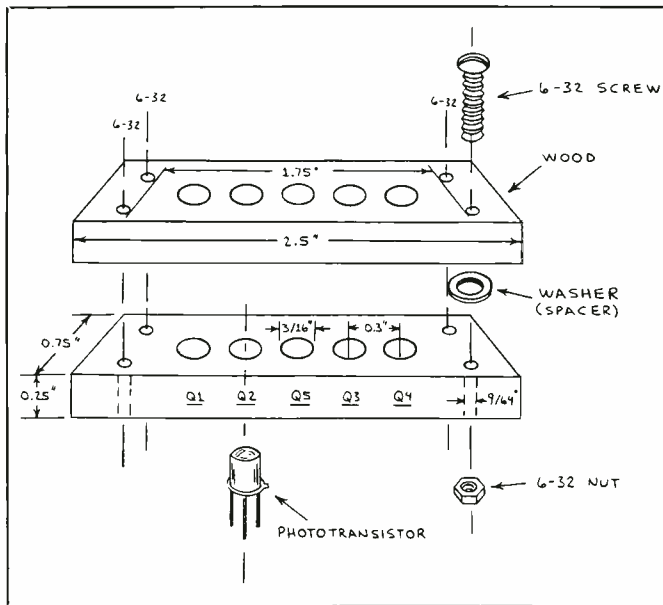

Fig. 4. Assembly details of an optoelectronic card reader.
Shown in Fig. 4 are the details of the prototype card reader that I fabricated from two  $2.5 \times 0.75 \times 0.25$ -inch strips of wood. You can make such a card reader in less than an hour. Proceed as follows.
• **NAND Gates.** The two NAND gates (U5) in Fig. 4 provide an interface between the 555 clock and the 74193 counter. When S8 is set to RUN, pulses from the clock are directed to the counter. The pin 5 HALT INPUT is normally left open or connected to +5 volts. However, if this input is made low, the clock pulses are prevented from reaching the counter and the controller circuit ceases to cycle through its memory.